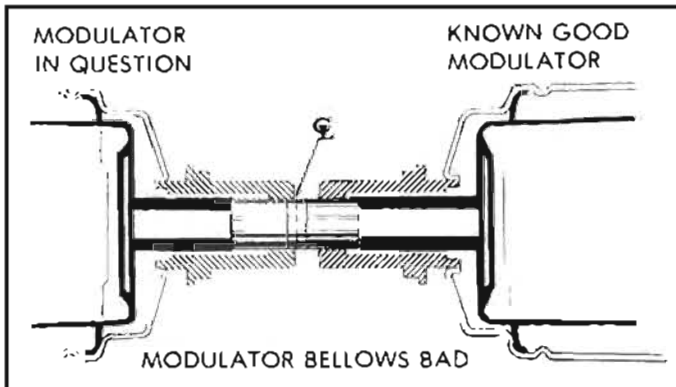

Figure 84
b. Holding the modulators in a horizontal position, bring them slowly together under pressure. The modulator in question, if defective, will reach the center line of the comparison gage before the known good modulator lines up with the outer gage line. See *Figure 84*.